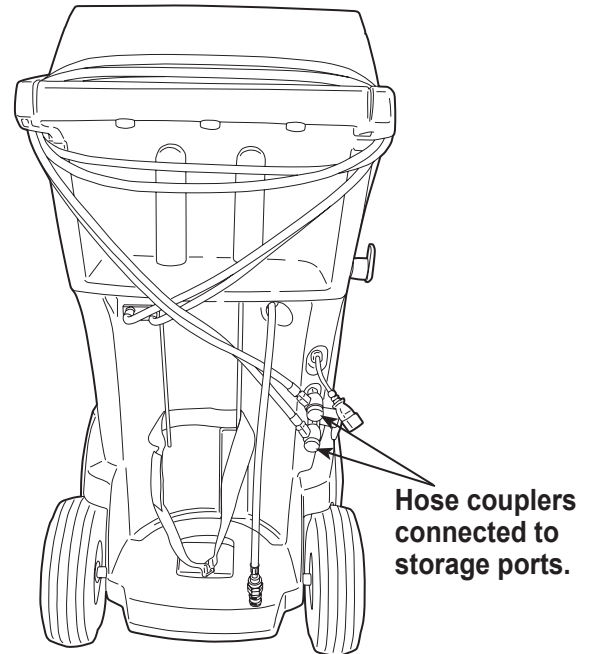

Figure 10
2. Loop the service hoses around the handle twice and attach them to the storage ports. See Figure 10.